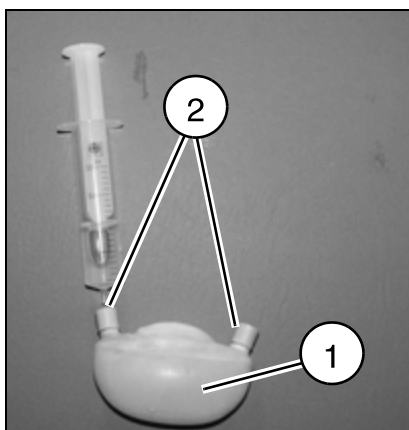

Fig. 68: Water bubble
- Fill the water bladder with water (approx. 100-120 ml, i.e. 5-6 syringes, each 20 ml) (1/Fig. 68 / p. 63):
- Insert the syringe needle through one of the valves (2/Fig. 68 / p. 63) and inject the contents of the syringe into the water bladder. The valve has a self-closing membrane.